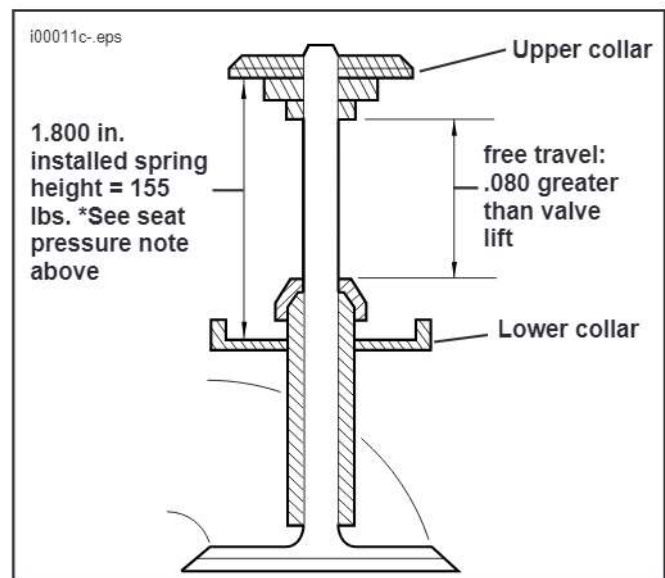

Figure 1. Valve Free Travel Check and Installed Valve Spring Height
4. See Figure 1. Install lower valve spring collars, upper collars, and collar keys. Check installed spring height. Add shims (see note below) or remove material from spring seat to reach installed spring height. Remove upper collar keys and upper collars.